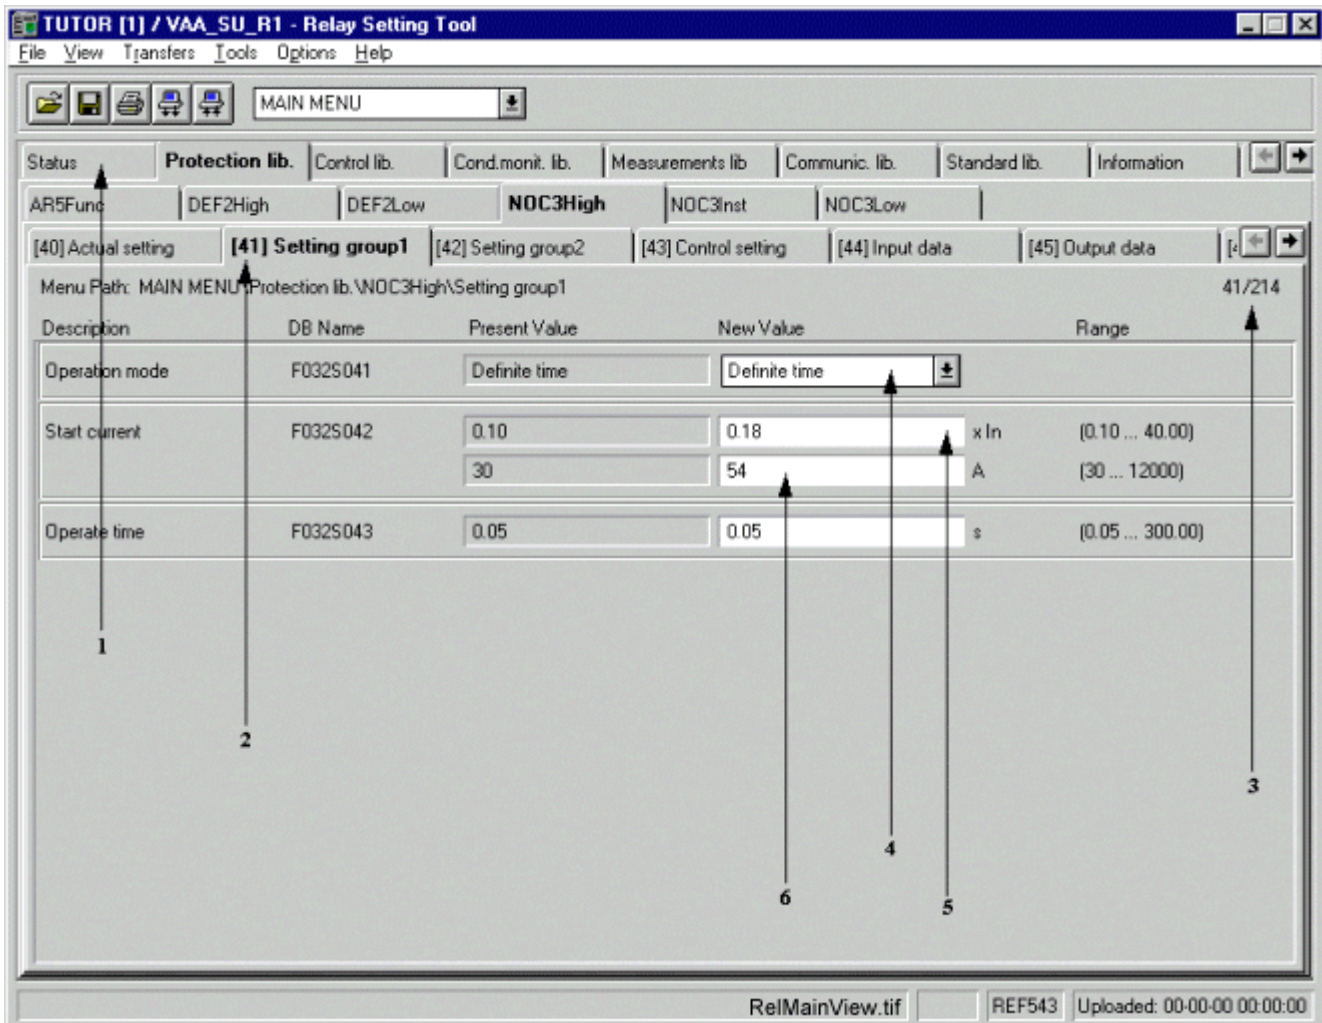

Fig. 4.4.7.2.-1 Relay Setting Tool Main View
The Relay Setting Tool Main View contains tabbed pages. The hierarchy and the number of these tabbed pages depends on the selected relay. A tabbed page can be selected by clicking the wanted page with the mouse, e.g. page 41 (see item 2 in Fig. 4.4.7.2.-1). Item 3 in Fig. 4.4.7.2.-1 indicates the last page (214).